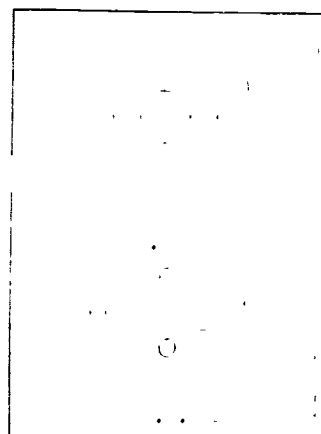
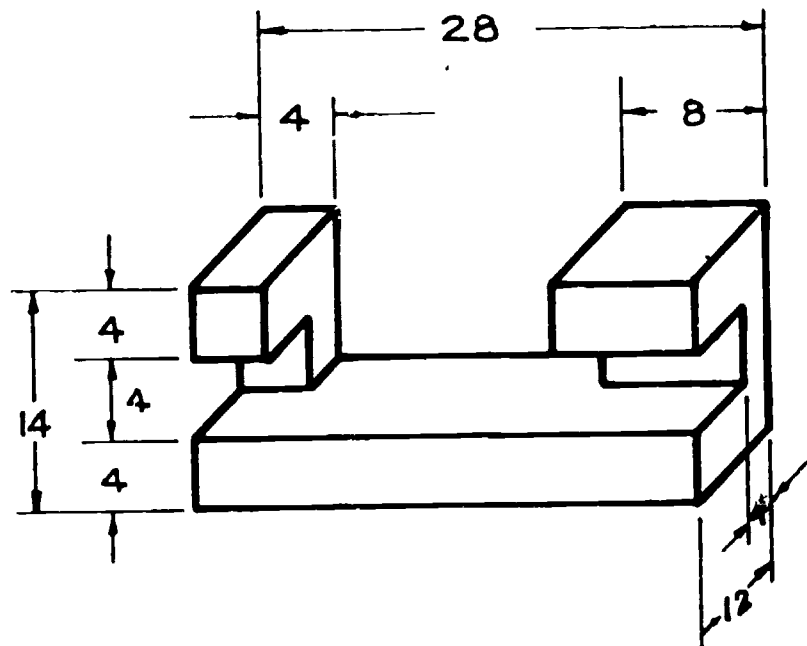
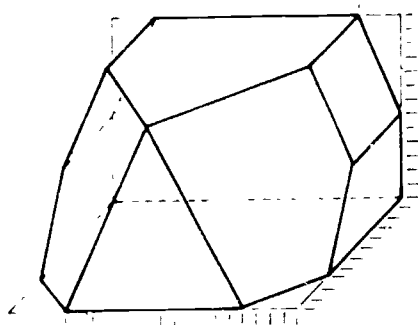

Fig. 3.6
Fig. 3.12
Fig. 3.13
2. Sketch the two gaskets shown in Fig. 3.6. Use 9 x 12 paper with $\frac{1}{4}$ " grid and same format as given.
1. On a sheet of 9 x 12 isometric grid paper sketch an isometric view of the object shown in Fig. 3.12. The numbers represent units on the isometric grid. Border and title block will be as in Fig. 3.6.
1. Sketch the isometric view of Fig. 3.13 on grid paper. Show border and title block as in Fig. 3.6.
- (a) In space I, sketch the view that you would see if looking perpendicular to the horizontal face of the reference box used to sketch the isometric of Fig. 3.13.